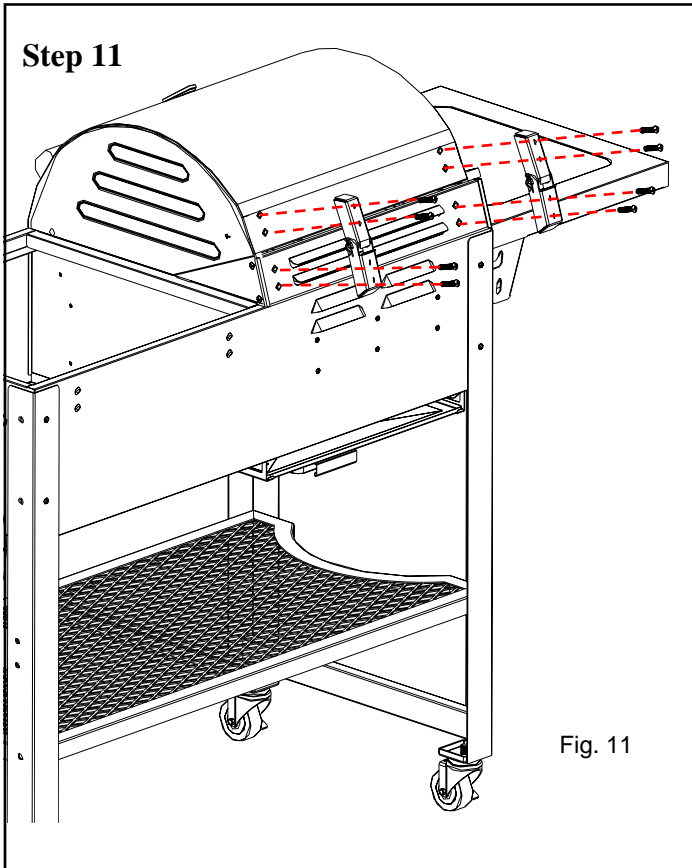

Fig. 11
*Locate:* The Gas Grill Lid, (2) Gas Grill Hinge Assemblies, (8) M6\*35 Bolts
Refer to Fig. 11, attach Gas Grill Lid and Windscreen to Hinge Assemblies using (8) M6\*35 Bolts as shown.